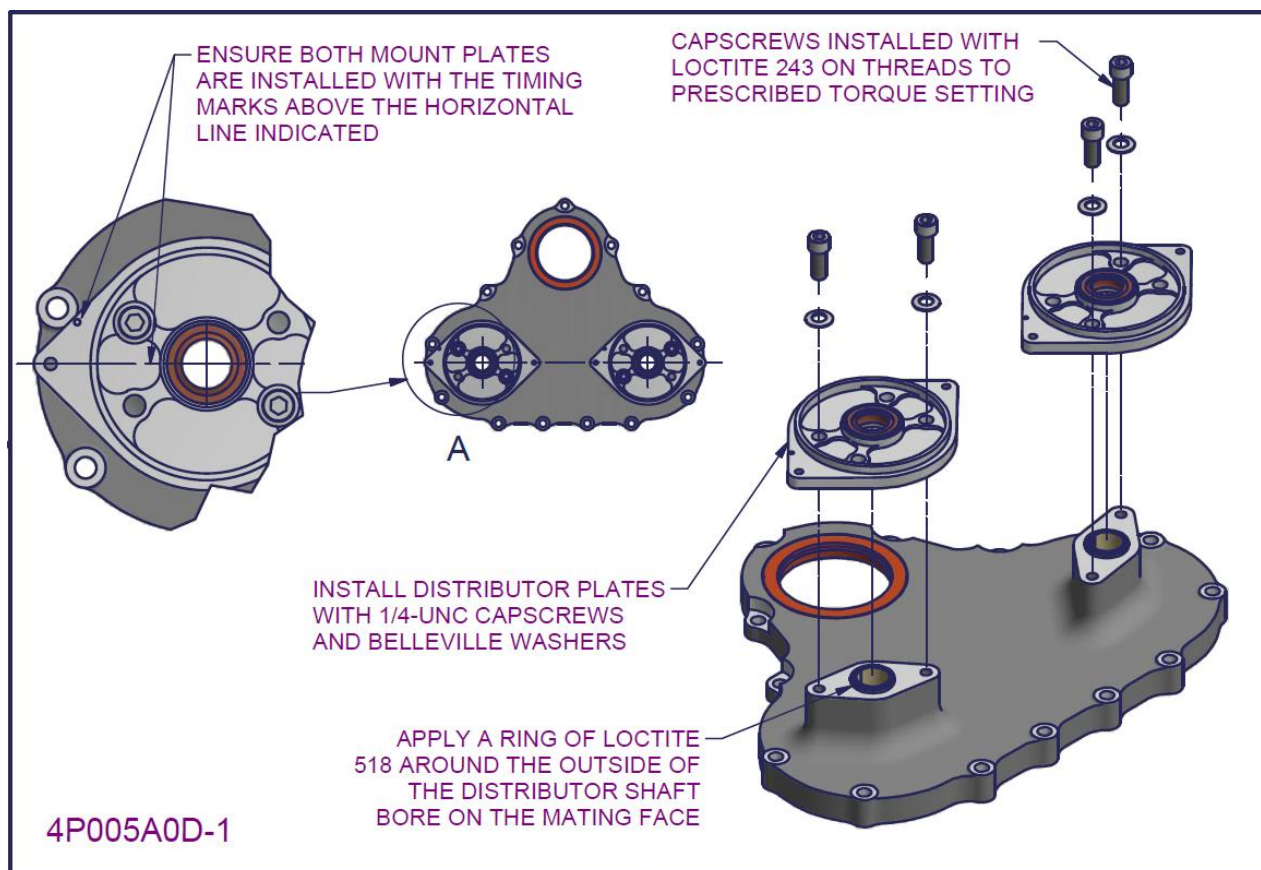

Figure 75 – 2200/3300 Distributor gearbox subassembly 3
- Ensure that the mount plates are installed in the correct orientation. The timing marks must be above the imaginary horizontal line drawn through both distributor shaft axes (as shown in Figure 75).